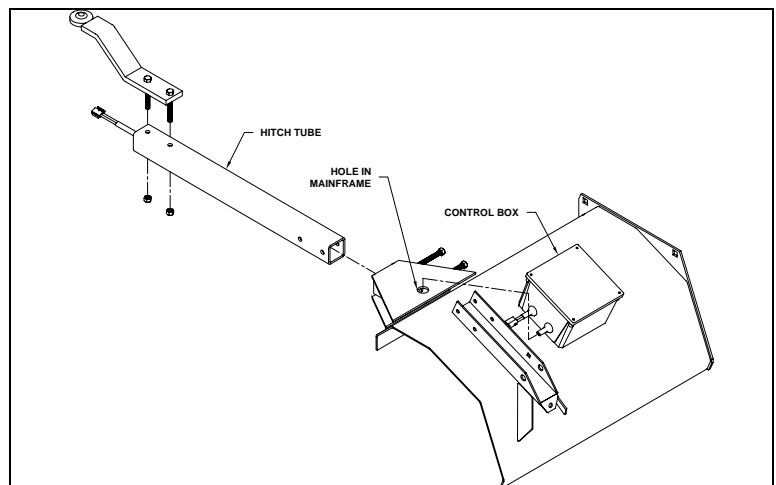

Figure 4. Control Wiring Harness
2. Route the Control wiring harness from the control box thru the hole in the main frame thru the hitch tube allowing the plug end to hang out as shown in Figure 4. This should be done while assembling the hitch tube.